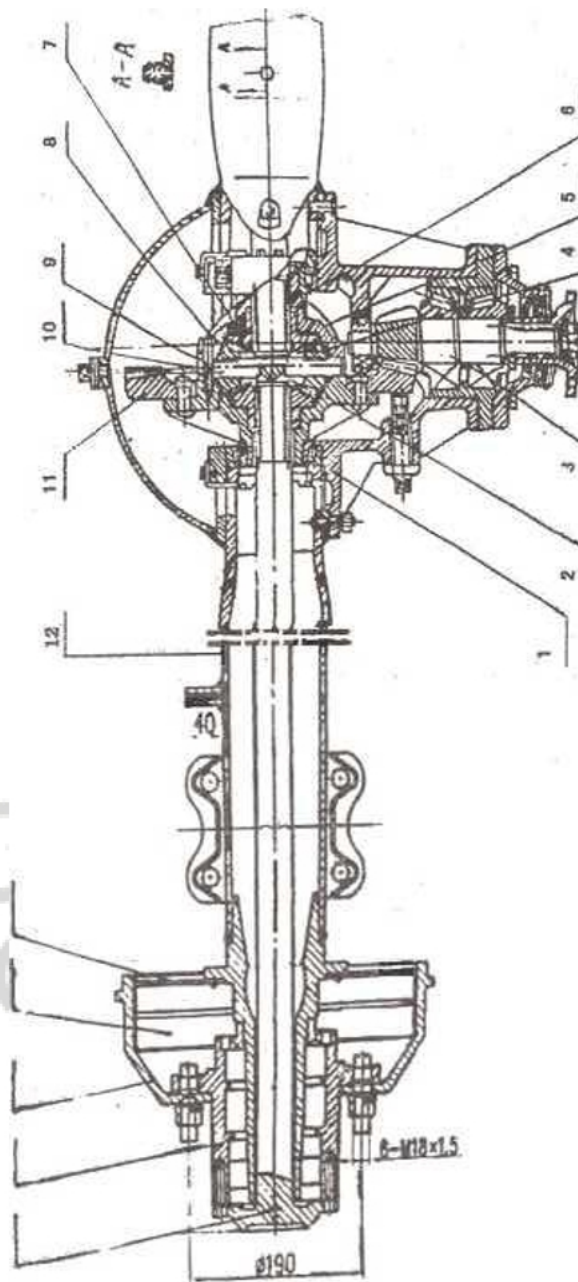

Figure 2-8: Structure of Driving Axle
The structure of driving axle (as shown in Figure 2-8): composed mainly of axle housing, main retarder and diff assembly, semi axle, etc. The axle housing is installed on the frame, bearing the load from the frame and transmitting the same to the wheels. The axle housing is also the main retarder. The semi axle is installed on the supporting mass. The main retarder is the 1-stage spiral bevel gear retarder, transmitting the torque and movement from the drive shaft. Diff consists of two cone-shaped straight teeth semi axle gears (5), cross axle (2) and four cone-shaped straight teeth differential gears (4)* left and right diff cases (2, 6) It plays a differential role for the different speeds of the left and right wheels and transmits the torque and movement of the main retarder to the semi axle that is linked to the hub (6) with the double-screw bolt.